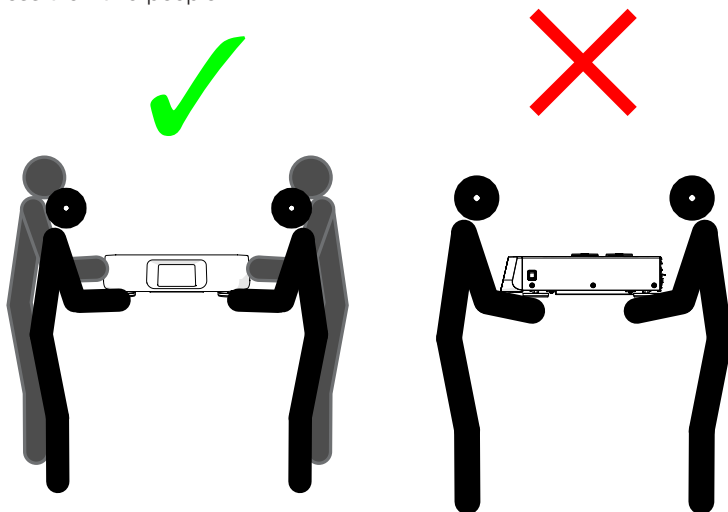

Figure 15: How to carry a shaker
- Solaris 6000 I incubated shakers require a clear area of 8 cm (3 in) on all four sides of the casing, as shown on the left side of Figure 15.
- Solaris 6000 R refrigerated shakers may be operated with a clear area of 8 cm (3 in) on all four sides of the casing if there is free air space above the shaker, as shown on the left side of Figure 15.
- If the air space above the Solaris 6000 R refrigerated shaker is obstructed, the clearance around the casing must be increased to 30 cm (12 in) on all four sides, as shown on the right side of Figure 15.